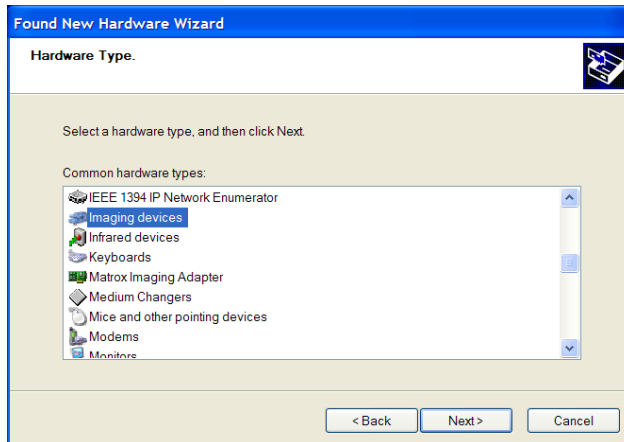

Figure 3.11 Select Hardware Type
- d. Select Imaging Devices as the Hardware Type (**Figure 3.11**).